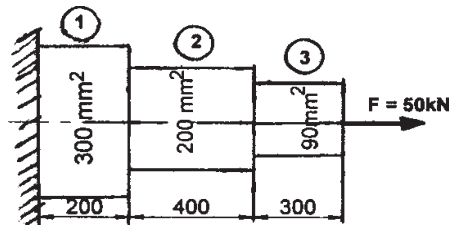

Fig.2
- Q9) a)** An axial stepped bar is as shown in Fig 2. It is subjected to an axial pull of 50kN. If the material of the bar is uniform and has a modulus of elasticity as 200 GPa, determine the displacement and stresses of each of the section, using one dimensional spar element. [8]